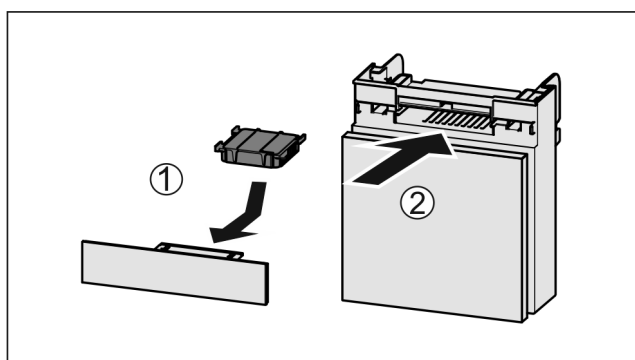

Fig. 226
- Insert the carbon filter as shown in the diagram Fig. 226 (1).
- Push the compartment in Fig. 226 (2).